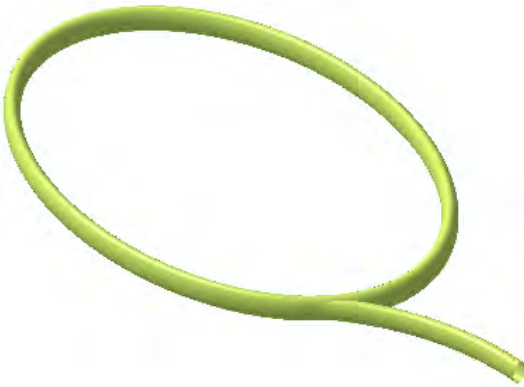

Figure 9-63 The model after creating the second sweep feature
4. Select the guide curve from the geometry area and choose the **OK** button from the **Swept Surface Definition** dialog box. The model, after creating the second swept surface, will look similar to the one shown in Figure 9-63.